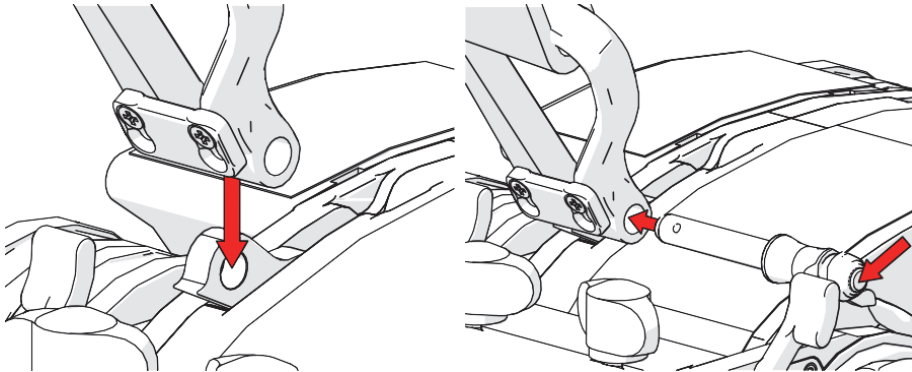

Figure 1-4 Aligning shackle with tether (*left*) and inserting pin (*right*)
3. Slide the shackle around the tether attachment point (see Figure 1-4 on page 34 [left]).
4. Align the tether attachment point and shackle, and then insert the pin while pressing the pin's release button (see Figure 1-4 on page 34 [right]).